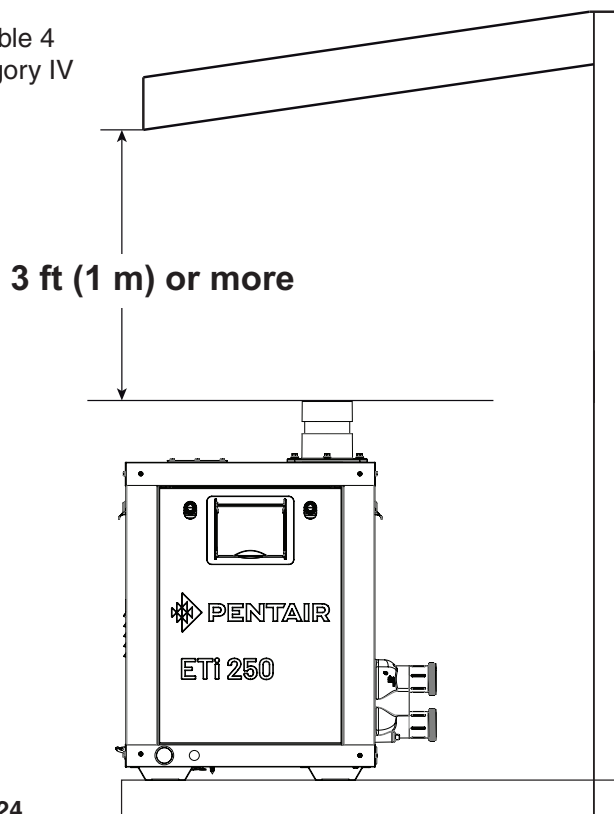

Figure 24.
If the heater is located under a roof or deck overhang, there must be at least three (3) feet (1 m) of clearance between the bottom of the overhang and the top of the heater exhaust vent, see Figure 24. If the heater is under a roof or deck overhang, the space around the heater must be open on three sides. **DO NOT** install the heater under any deck.